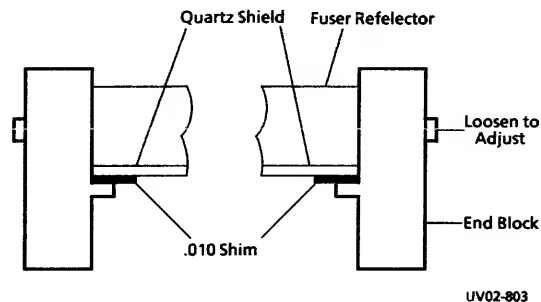

Figure 3-29. Shim Placement
4. Place a .010 in. shim stock between the Quartz shield and both End Blocks. (See Figure 3-29).